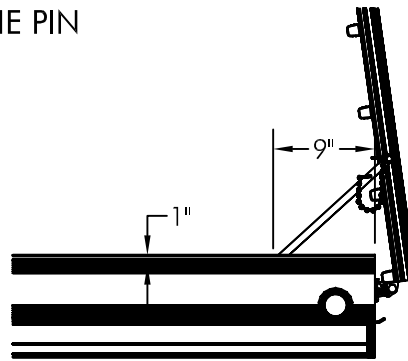

Fig. 1
DRILL (1) 29/64" Ø THRU EACH SIDE OF THE TRAILER FOR THE SIDE BRACES 1" FROM THE TOP OF THE TRAILER SIDE AND 9" FROM THE BACK. SEE FIG. 1 FOR HOLE LOCATION. FASTEN BRACE W/(1) 3/8 x 1" CARRIAGE BOLT, 3/8" FLATWASHER & (1) 3/8" NYLOCK. REPEAT PROCEDURE ON OTHER SIDE OF TRAILER. RAISE THE RAMP UNTIL THE HOLE IN THE RAMP LINES UP WITH THE HOLE IN THE BRACE & INSERT THE PIN INCLUDED WITH SIDE BRACE.